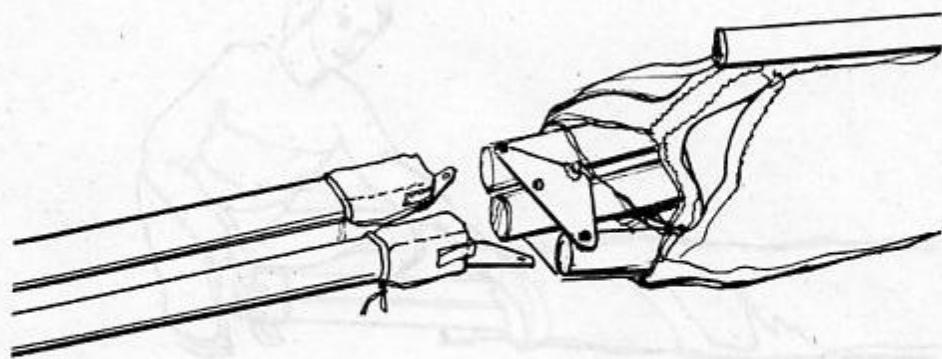

Fig. 3.1.22.
14. Insert free ends of the crossbar into the nose hole of the sail. Make sure that the crossbar tubes pass properly into corresponding pockets. Insert the crossbar until the crossbar plates on the ends of the crossbar tubes come up against the holes of the crossbar/leading edge junctions in the N2 tubes of the leading edge (Fig. 3.1.22, 3.1.23, 3.1.24, 3.1.25).